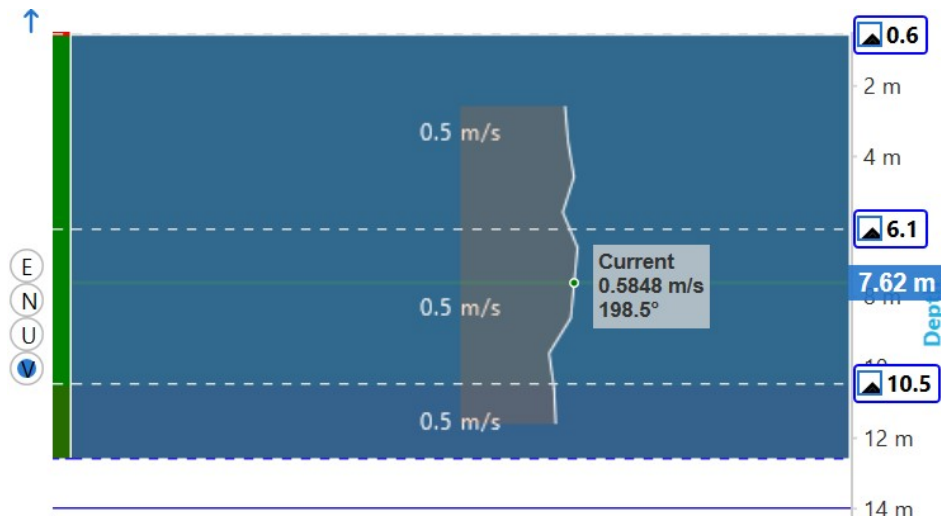

Figure 43: Cursor read-out pops up when hovering over the plot
When you hover the mouse over the plot area a cursor read-out will pop up, showing the current (component) value for that depth, and, in case you selected the full current magnitude (V), its direction. A horizontal line through the cursor position indicates the depth. The depth value shows in a blue box on the depth axis to the right of the plot. Figure 43 shows an example.